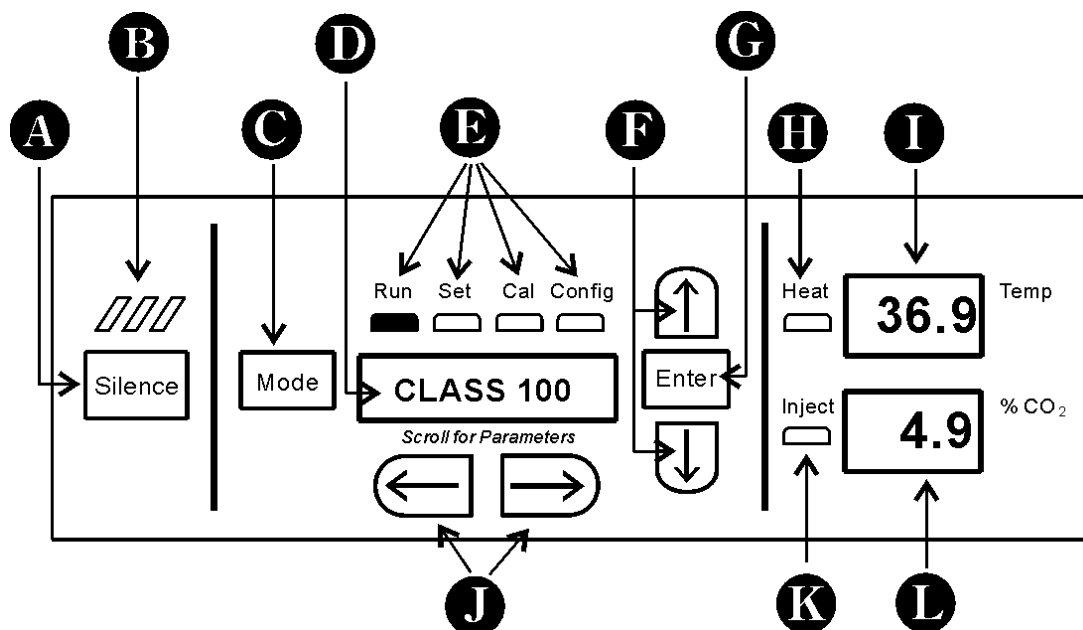

Figure 1-2 Control Panel
- Control Panel - Keypad, Displays and Indicators. (See Figure 1-2).